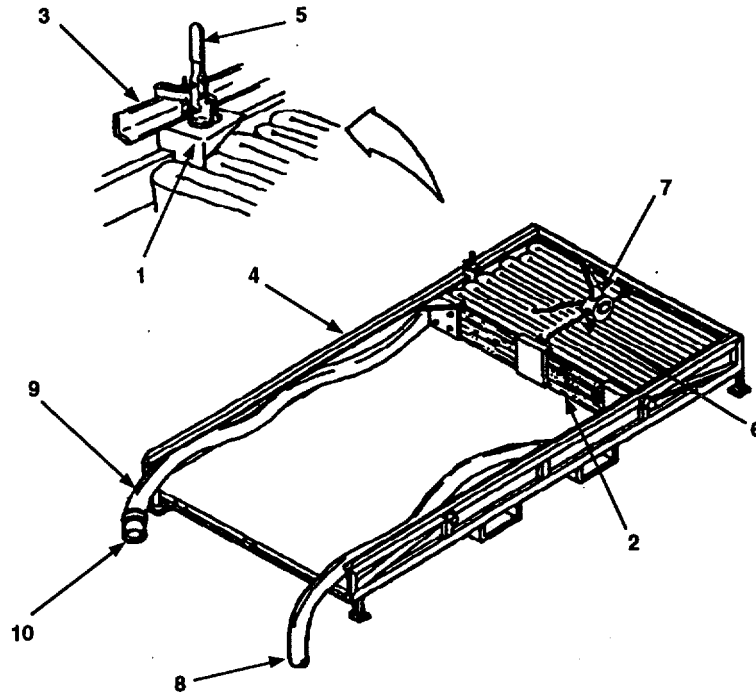
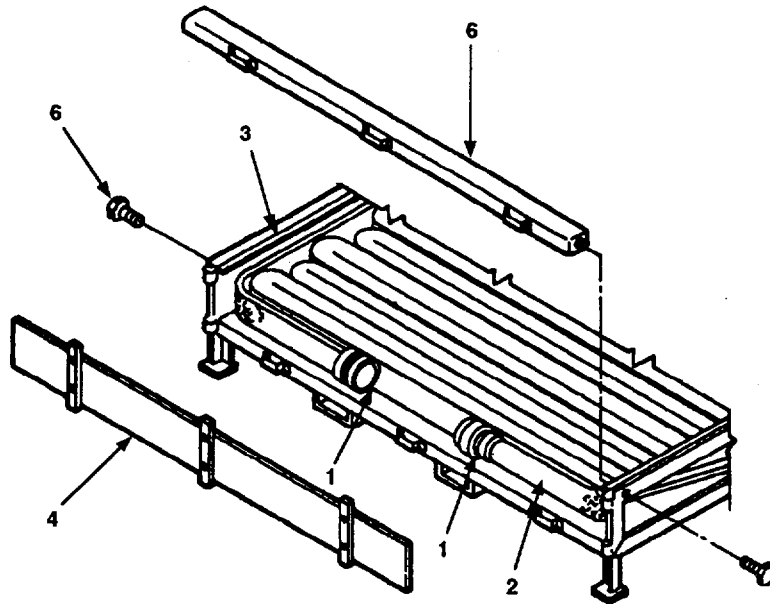

Figure 2-63. Hose Retaining Bracket Installation.
Figure 2-64. Tailgate Assembly Installation.
- y. Place two hose-retaining brackets (Figure 2-63, 1) one or two folds in front of pullboard assembly (2). Position brackets on top of metal rim (3) on inside of flaking box assembly (4).
- z. Push up on toggle levers (5), locking brackets (1) against metal rim (3) on inside of flaking box assembly (4).
- aa. Release chain (6) on hoist (7). Remove pullboard assembly (2) from hoist (7).
- ab. Flake next 150 feet of hose (8) into flaking box assembly (4). Repeating steps u through x, compress hose (8) into two-thirds of space in flaking box assembly (4).
- ac. Push down on two toggle levers (5) and remove two hose-retaining brackets (1) (installed in step y).
- ad. Reinstall two hose-retaining brackets (1) one or two folds in front of pullboard assembly (2).
- ae. Push up on two toggle levers (5) and lock two hose-retaining brackets (1) against metal rim (3) on inside of flaking box assembly (4).
- af. Release chain (6) on hoist (7). Remove pullboard assembly (2) from hoist (7).
- ag. Flake remaining hose (8) into flaking box assembly (4). Repeating steps u through x, compress hose into remaining space in flaking box assembly (4).
- ah. Push down on two toggle levers (5) and remove two hose-retaining brackets (1) (installed in step ad).
- ai. Install two hose-retaining brackets (1) one or two folds in front of pullboard assembly (2).
- aq. Fold ends (Figure 2-64, 1) of hoseline (2) into flaking box assembly (3).
- ar. Insert tailgate assembly (4) into cleats on lower frame of flaking box assembly (3).
- as. Install tie bar (5) on flaking box assembly (3) so that tailgate assembly (4) fits into cleats on tie bar (5).
- at. Install two screws (6) on rear of flaking box assembly (3). Tighten two screws (6) until tie bar (5) is securely fastened to flaking box assembly (3).
- au. Push down on two toggle levers (Figure 2-63, 5) and remove hose retaining brackets (1) (installed in step ai.).